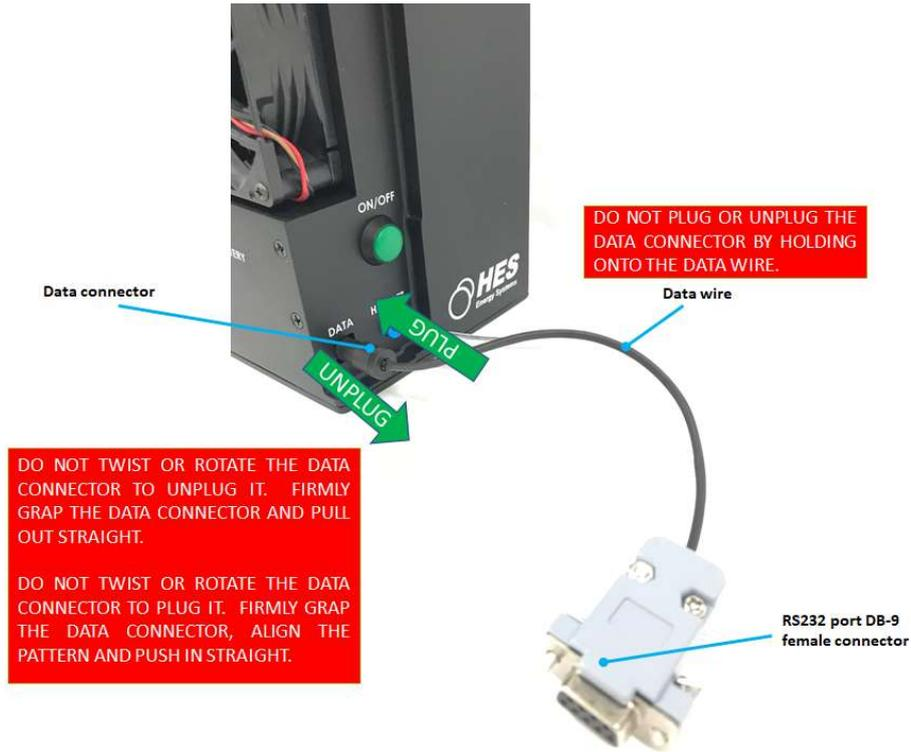

Figure 10. Instructions to plug and unplug the data connector to/from the Aerostak A500-45 product.
2. Connect the provided data cable adapter to the round connector on the system. **Do not twist or rotate the data cable during plugging or unplugging process as this may cause damage. The data cable needs to be pushed in or pulled out to/from the data port (see Figure 10 for more detailed instructions and visuals).**